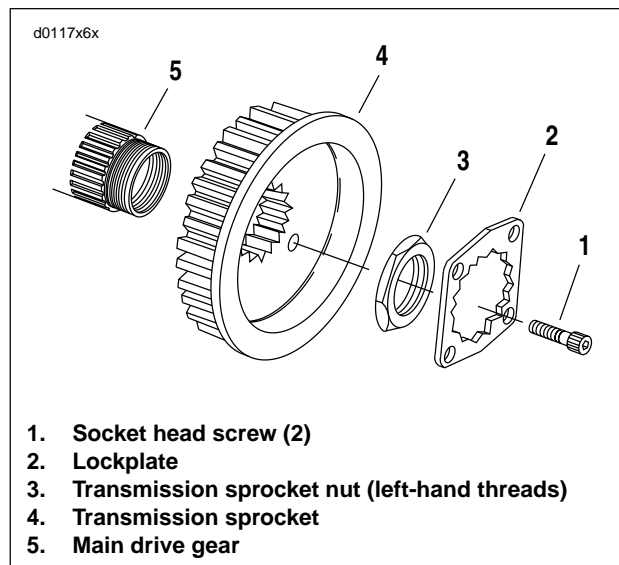

Figure 6-94. Transmission Sprocket
8. See Figure 6-94. Place transmission in first gear. Remove two socket head screws (1) and lockplate (2).
1. See Figure 6-94. Install transmission sprocket (4) with secondary drive belt onto main drive gear (5).
3. Apply a few drops of LOCTITE 262 (red) to the **left-hand threads** of transmission sprocket nut (3) and lightly coat the washer-faced side with clean H-D 20W50 engine oil. Wipe off any excess oil.
9. See Figure 6-94. Install lockplate over nut so that two of lockplate's four drilled holes (diagonally opposite) align with sprocket's two tapped holes.
10. See Figure 6-94. Install two socket head screws through aligned holes of lockplate and into tapped holes of sprocket. Tighten to 90-110 **in-lbs** (10.2-12.4 Nm).